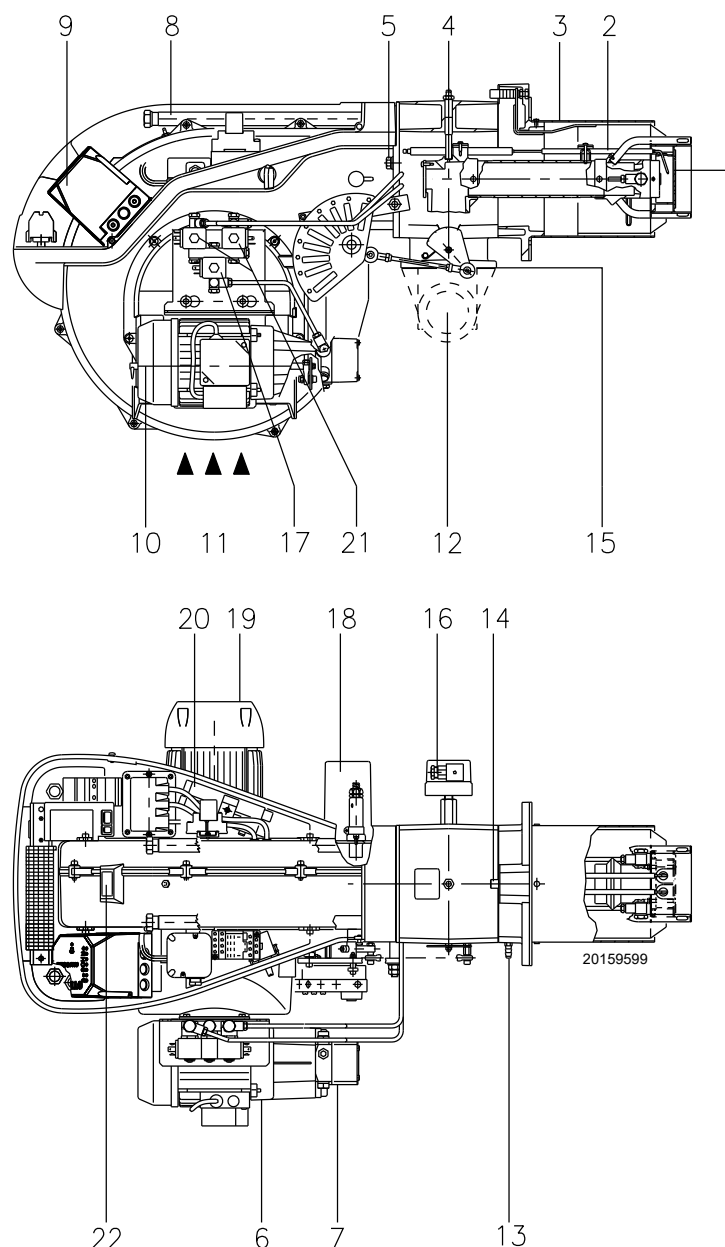

Fig. 6
(1) Reference conditions: Ambient temperature 20°C - Gas temperature 15°C - Barometric pressure 1013 mbar - Altitude 0 m a.s.l.
(2) Pressure at test point 5)(Fig. 6) with zero pressure in combustion chamber and at maximum burner output.
(3) Sound pressure measured in manufacturer's combustion laboratory, with burner operating on test boiler and at maximum output. The sound power is measured using the "Free Field" method, required by EN 15036 standard, and according to an "Accuracy: Category 3" measurement, as described in EN ISO 3746.
control box lockout: if the control box 9)(Fig. 6) push-button lights up, it indicates that the burner is in lockout.